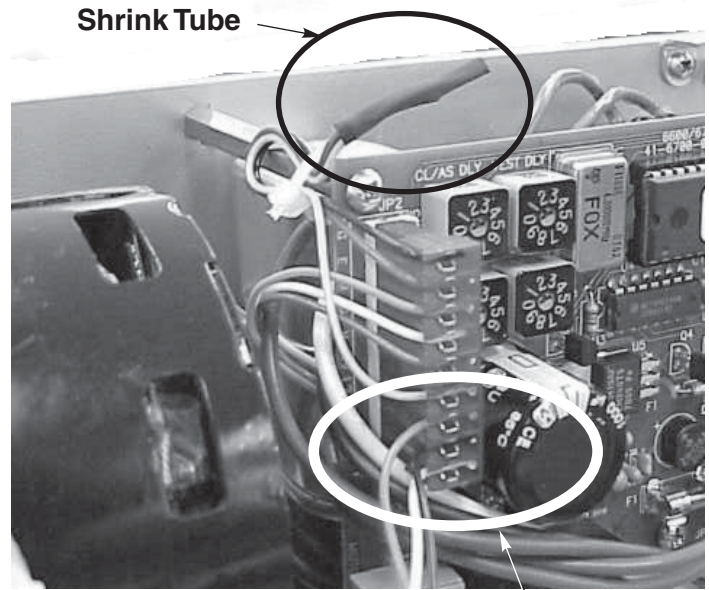

Fig. 1
1. Remove the Shrink tube from the Red, Black and Yellow Wires shown in Fig. 1. Carefully cut tie wrap.